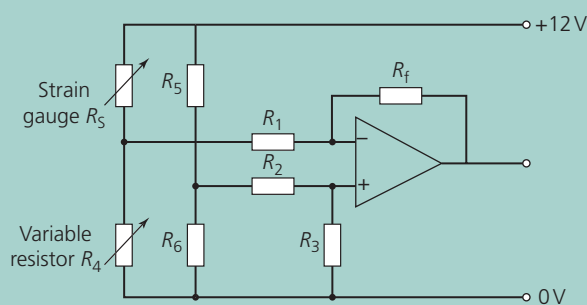

Figure A3 A strain gauge in a Wheatstone bridge network connected to an operational amplifier.
Figure A3 shows a Wheatstone bridge connected to an op-amp. If the difference in potential between X and Y is applied across the inverting and non-inverting terminals of the op-amp, this difference, and hence the change in resistance of R_S , can be amplified.
- A4 a.** In what type of configuration is the op-amp in the circuit of Figure A3?